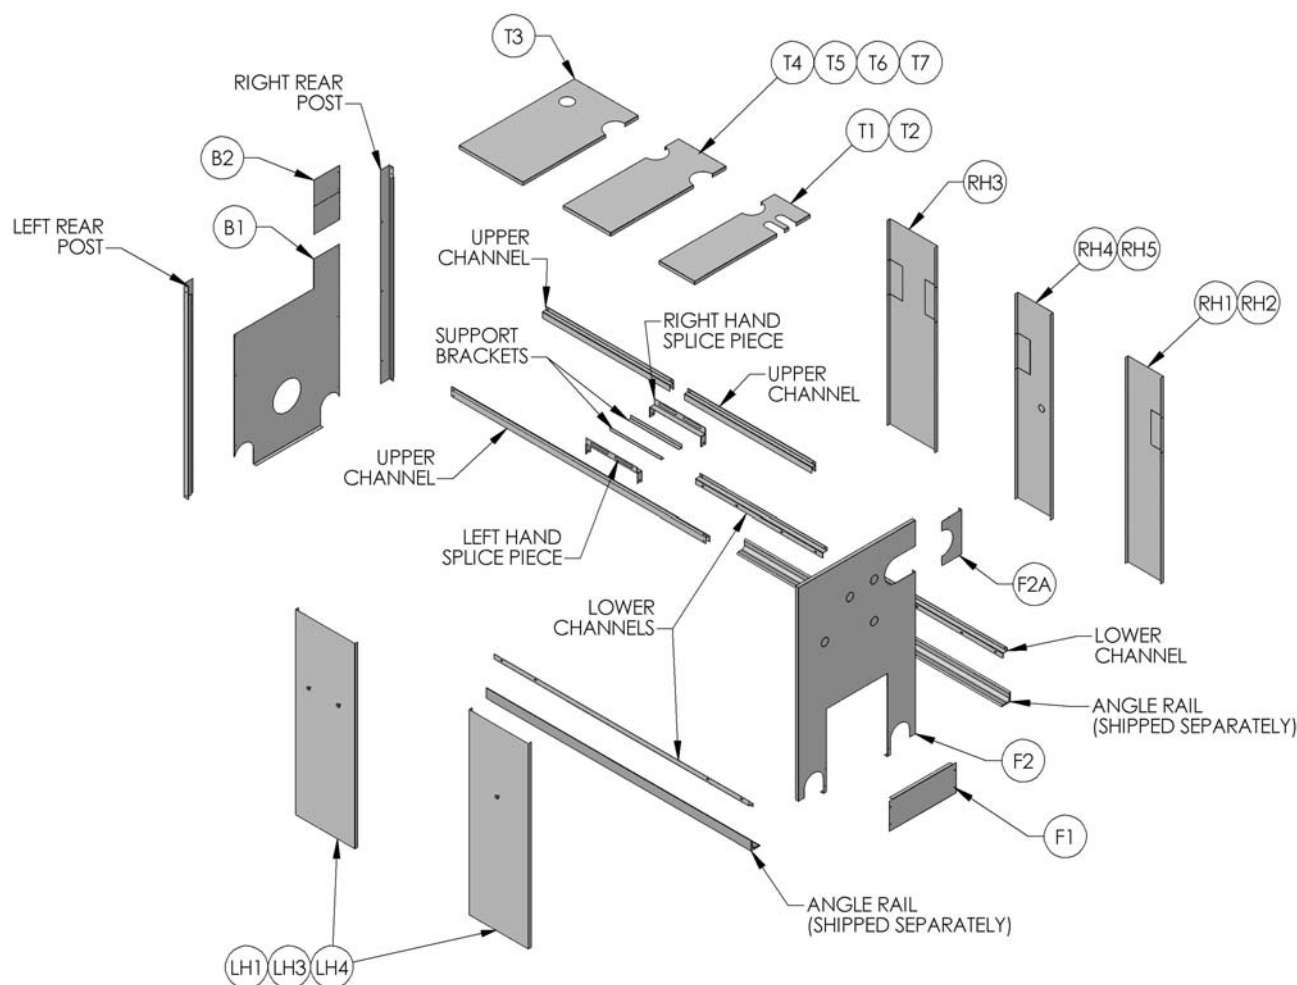

Figure 3.12: Jacket Assembly
5. Any limit controls, steam gauge glass, low water cutoffs or gauges to be mounted on the front of the boiler must be installed after the Front Jacket Panel, F2, as shown in Figure 3.12.
1. Figure 3.12 shows a typical jacket assembly.